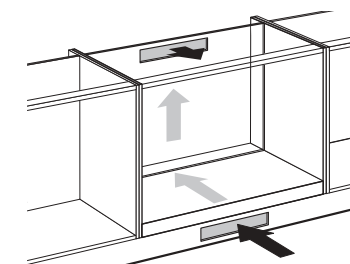

Fig. 10: Ventilation openings
- Saw out the ventilation openings (min. 100 cm²). Ventilation takes place via plinth and rear of cupboard (see figure 10).